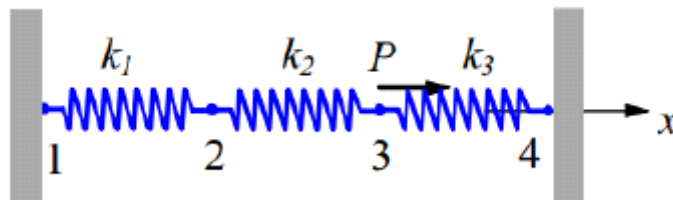

Figure 2 (a) [8]
- 2 a) For the spring system shown in the figure 2 (a) find the displacements at the nodes and the reactions. Given $K_1=100$ N/mm, $K_2=200$ N/mm, $K_3=100$ N/mm, $P=500$ N.